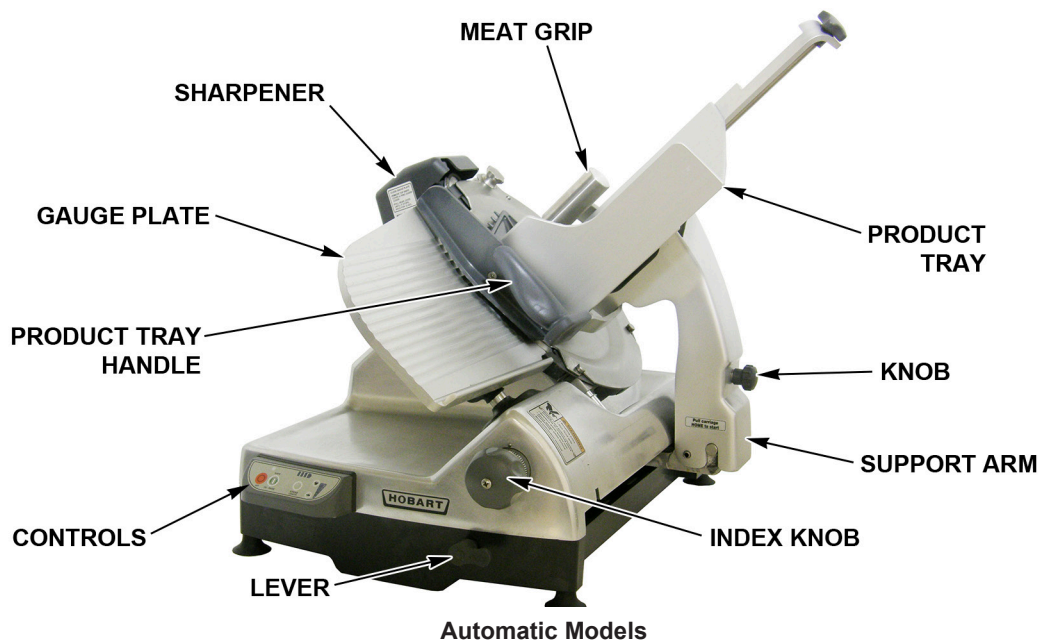

Fig. 1
- Gauge Plate Interlock – prevents the Product Tray (Fig. 1) from being tilted or removed unless the Product Tray is in the home position (pulled all the way forward) and the Gauge Plate is closed.
- Home Start – requires the Product Tray (Fig. 1) to be in the home position (pulled all the way forward) before the slicer can be started.
- Close-to-Stop – turns the slicer off when the Gauge Plate is returned to the closed position by turning the Index Knob (Fig. 1) fully clockwise. The slicer also is turned off if the OFF button is pressed.
The Product Tray (Fig. 1) must be installed.
- Close the Gauge Plate (Fig. 1) by turning the Index Knob (Fig. 1) fully clockwise.
- Pull the Product Tray (Fig. 1) toward the operator until it reaches its stop. This is the home position.
- Raise the Meat Grip (Fig. 1) to the top of the Product Tray to rest in the Meat Grip Slot.
- Place the product to be sliced against the Gauge Plate (Fig. 1) on the Product Tray (Fig. 1).
- Use the Product Tray Handle (Fig. 1) to push and pull the Product Tray back and forth to slice. When finished, pull the Product Tray forward until it stops. Turn the Index Knob fully clockwise to close the Gauge Plate, this will turn the slicer off. The OFF Button (Fig. 3) can also be pressed to stop the slicer.
- Use the Product Tray Handle (Fig. 1) to push and pull the Product Tray back and forth to slice. When finished, pull the Product Tray forward until it stops. Turn the Index Knob fully clockwise to close the Gauge Plate. This will turn the slicer off. The OFF Button (Fig. 5) can also be pressed to stop the slicer.